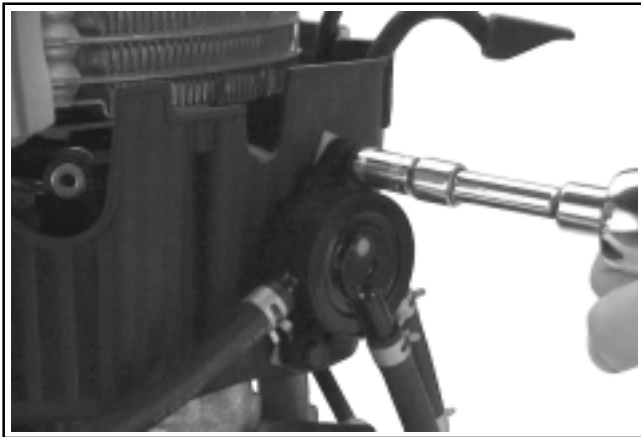

Figure 9-12. Removing Fuel Pump.
3. Remove the two hex. flange screws securing the fuel pump to the blower housing and remove the pump and lines as an assembly. Slide the fuel line out of the clip attached to mounting stud. See Figure 9-12.